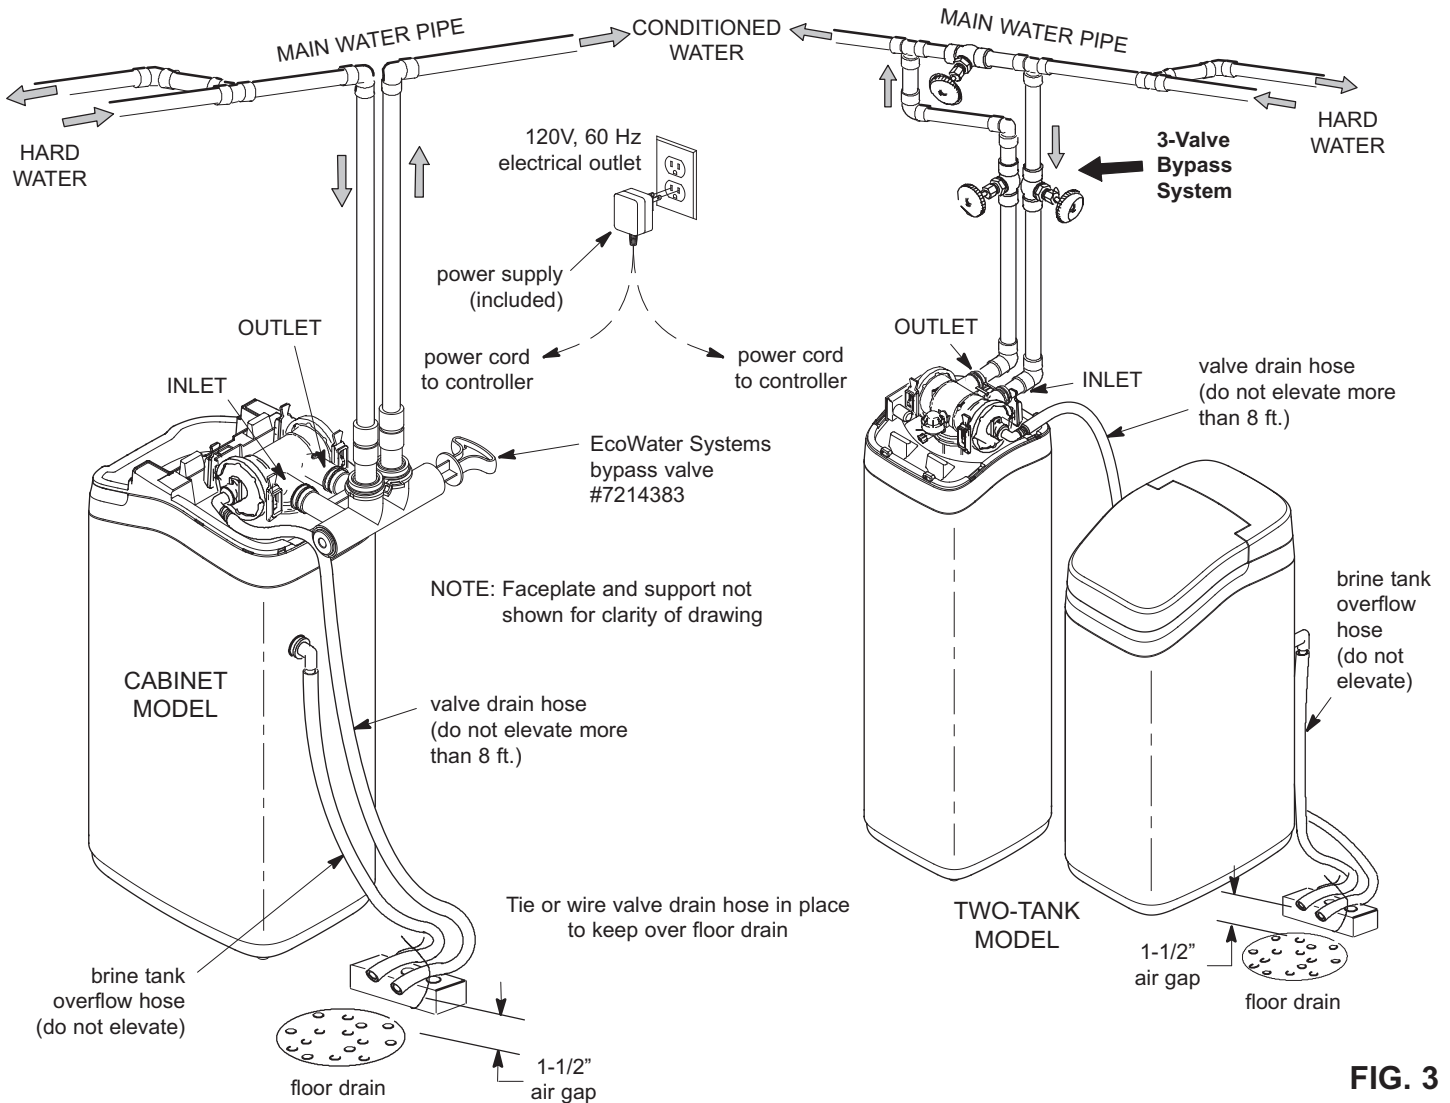

FIG. 3
If installing a 3-valve bypass system, plumb as needed using Figure 3 as a guide. When installing sweat copper, be sure to use lead-free solder and flux, required by federal and state codes. Use pipe joint compound on outside pipe threads.
The house cold water pipe (metal only) is often used as a ground for the house electrical system. The 3-valve bypass type of installation, shown in Figure 3, will maintain ground continuity. If you use the plastic bypass, continuity is broken.
- c. Run the hose to the floor drain, and as typically shown in Figure 3, tie or wire the end to a brick or other heavy object. This will prevent "whipping" during recharges. Be sure to provide a 1-1/2" minimum air gap, to prevent possible sewer water backup.